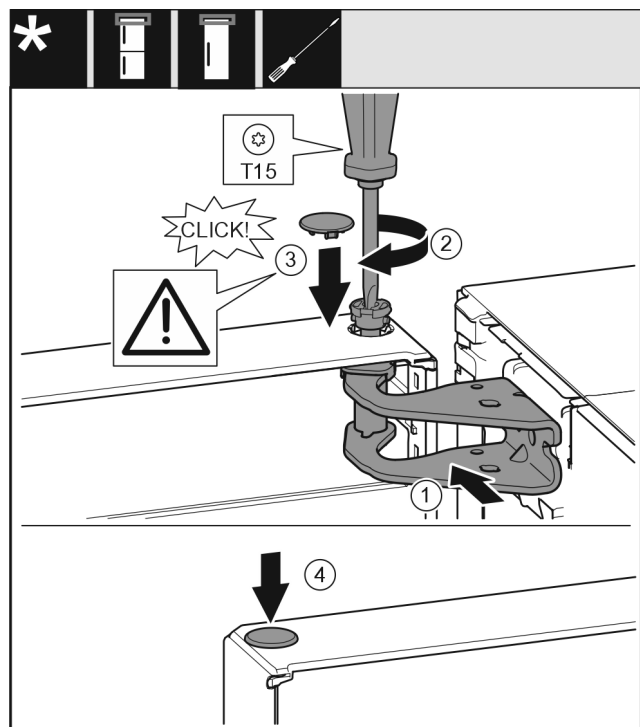

Fig. 21
- ▶ Align the top of the door with opening in the bearing bracket. Fig. 21 (1)
- ▶ Insert the bolt and tighten with a T15 screwdriver. Fig. 21 (2)
- ▶ Fit the protective cover to protect the door: Insert the protective cover and check that it is flush to the door. If not, insert the bolt fully. *Fig. 21 (3)*
- ▶ Insert the plugs. *Fig. 21 (4)*